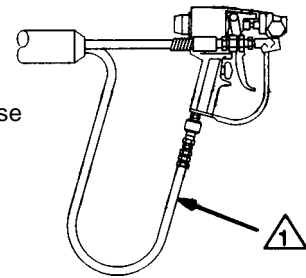

Figure 5 _____
- b. Between the middle and outer prong of the connector, the resistance should be more than 1 megohm. If it is less, there is a fault in one of the connectors (D) or the heat tapes, which will cause the Ground Fault Interrupter of the heater hose control to shut off electric power to the hose. If there is a fault, check each 50' (15.2 m) hose section individually and replace the faulty section.
- c. Check the continuity of the middle wire of the connector (D) from one end of the coupled hoses to the other. The resistance should be less than 10 ohms.
- c. Connect the air hoses. Do not alter the air hose length at this connection. Loop it down from the gun as shown in Figure 5.
- a. Wrap electrical tape securely around the fluid and air hose connectors only, so the sharp metal edges of the connectors cannot damage the plastic connectors of the heat tapes. See Figure 5.